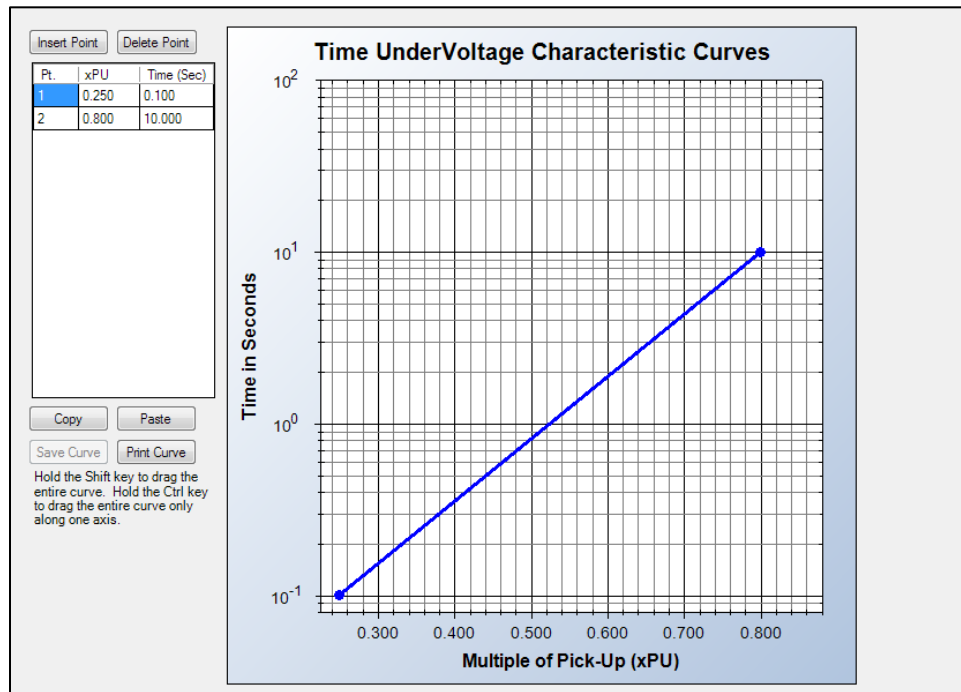

Figure 7-1. Time Undervoltage Characteristic Curves
*BESTCOMSPlus* is used to set the 27P element Table Curves (T1, T2, T3, and T4). Using the Settings Explorer within *BESTCOMSPlus*, open the Protection, Voltage, Undervoltage Table Curves, Table Curve (1, 2, 3, or 4) tree branch and select the table curve to be modified. Refer to Figure 7-1. A minimum of 2 and maximum of 40 points can be entered for any one T curve. When you are satisfied with the values chosen, select Save Curve. Use the Settings Explorer to browse to the 27P-x element you wish to program and use the drop-down menu under Curve to select T1, T2, T3, or T4.